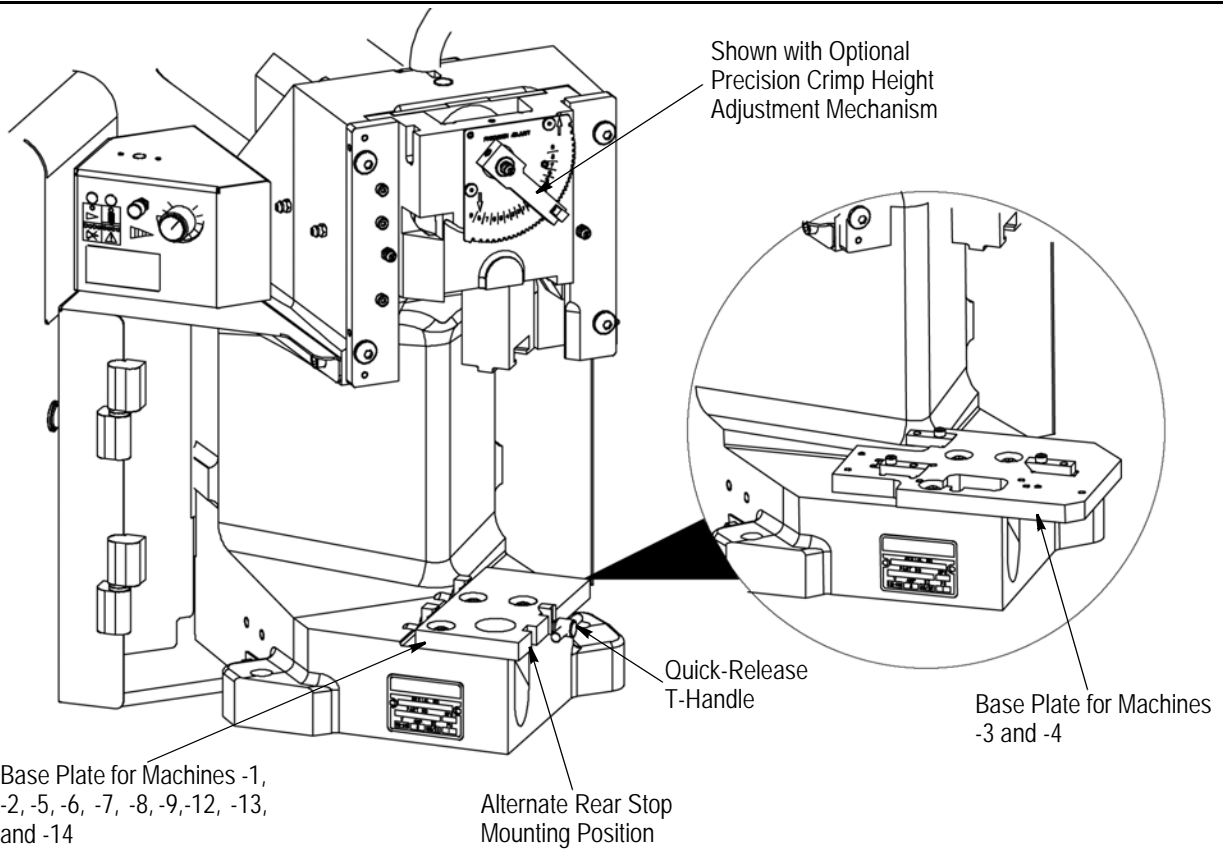

Figure 4
3. The base plate provides the mounting surface on which the applicator is installed. The quick-release latching feature on Machines -1, -2, and -5, through -13 permit fast, easy installation and removal of the applicator. Note that Machines -3 and -4, restricted to Asia/Pacific market, do not include the quick-release latching feature. See Figure 4.
*When using Applicator 567200-2 (originally intended for use with AMP-O-ELECTRIC Model "K" terminating machine), loosen the quick-release T-handle, slide down the applicator base clamp, and remove the rear stop located on the left side of the base plate. Install the rear stop (PN 354561-1), supplied with the air feed kit, at the alternate mounting position on the base plate. See Figure 4.*